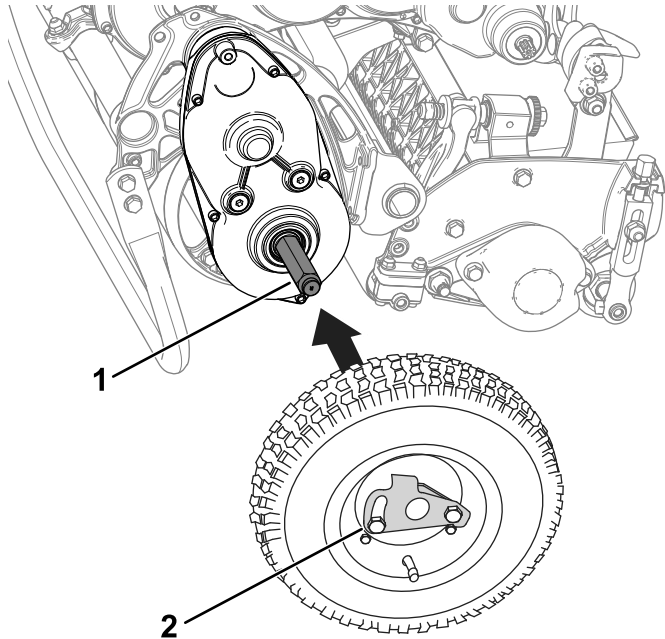

Figure 16
2. Slide a wheel onto an axle (Figure 16).
3. Pivot the wheel-locking clip (Figure 16) away from center of the wheel, allowing it to slide farther onto the axle.